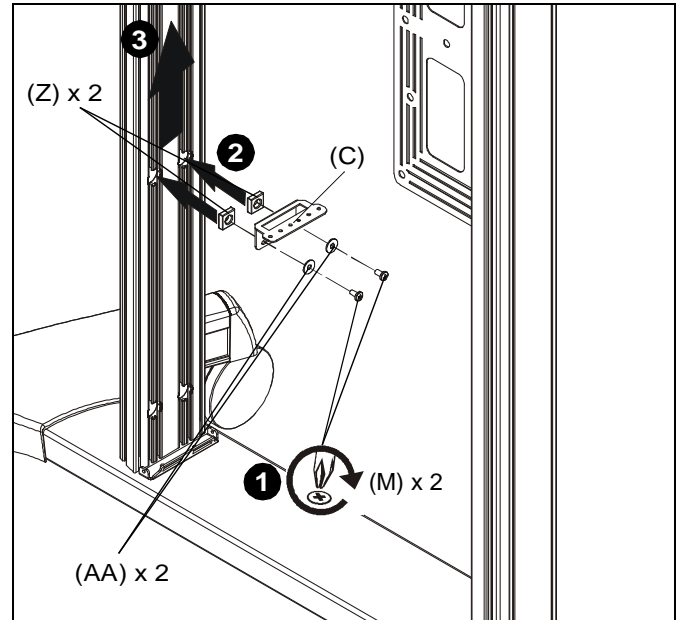

Figure 6
1. Loosely install two #10-24 x 3/8" Phillips head machine screws (M) through two #10 washers (AA), holes in vertical rack bracket (C) and into two #10-24 square nuts (Z). (See Figure 6)
2. Insert two #10-24 square nuts (Z) into two openings on column channel. (See Figure 6)
3. Lift vertical rack bracket (C) to desired mounting position. (See Figure 6)
4. Tighten screws to secure in position. (See Figure 6)